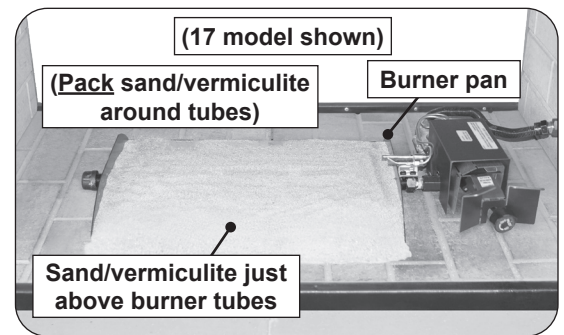

Fig. 19-1 Place sand/vermiculite
1. Partially fill the burner pan with the sand/vermiculite until it rests at a level just above the burner tubes as shown in Fig. 19-1.